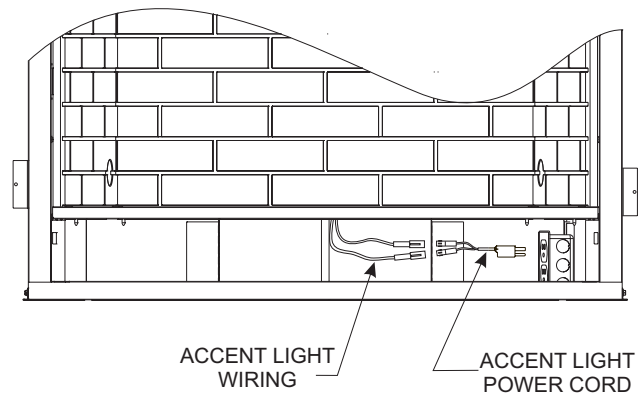

Figure 5
8. Locate the wires dropped down the rear cavity of the firebox. Working through the blower access opening, attach the Light assembly wire connectors (previously dropped down between the firebox and the outer wrap walls) to the corresponding connectors of the Power cord assembly. See **Figure 5**.